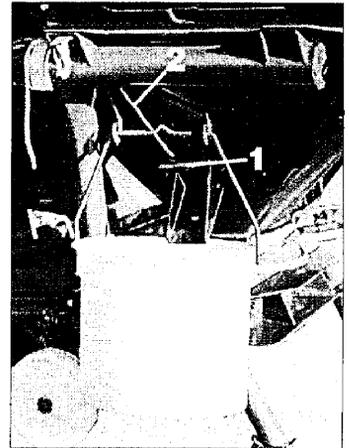

Fig. 9
- Completely open shutter slide (Fig. 9/1) of the side calibration opening by pulling the rope (Fig. 9/2) for about 5 seconds (to ensure an even flow of fertiliser). Thereafter pour the collected fertiliser back into the hopper of the broadcaster.